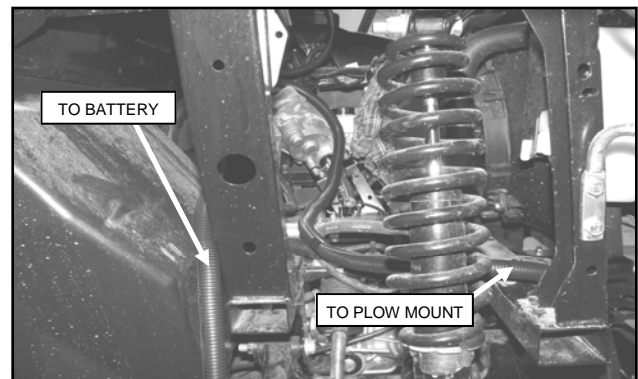

Fig. 3.3 (Running Harness, Passenger Side)
- 3.3** Run the Main Harness from the Plow Mount to under vehicle's hood per fig 3.3. Make sure that the harness is clear of the suspension and steering components as well as the tire.